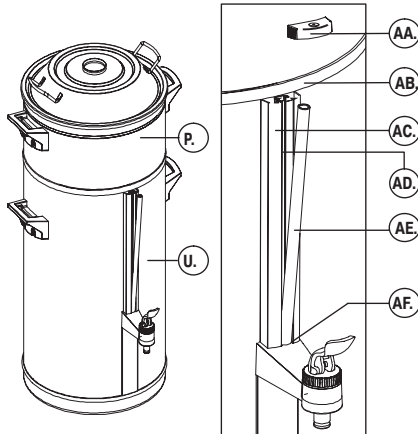

Fig. 8 Placing the sight glass cover
- Clean the gauge glass (fig.8):